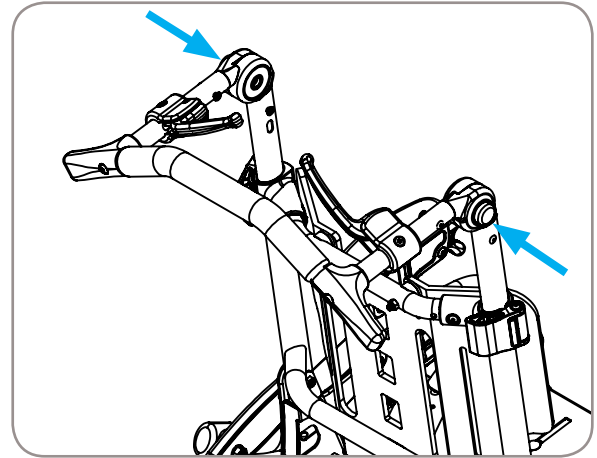

Figure 6
1. Press and hold buttons on outside of each adjustment ratchet, reference Figure 6.